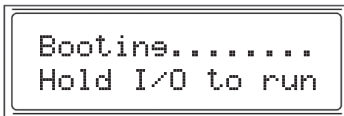
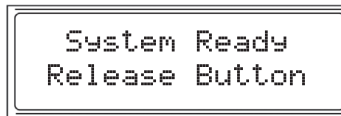
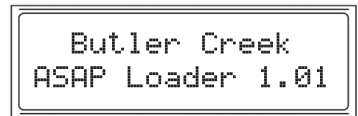
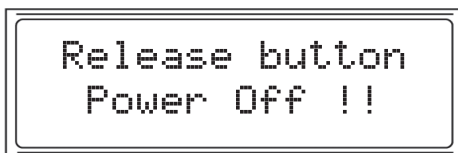

Fig. 1
Fig. 3
Fig. 4
Fig. 17
- To power on the ASAP Loader, press and **hold** the **Power** button ("I/O"). The LCD display will light up and display the booting (startup) (*Fig. 1,2*), system ready (*Fig. 3*), and product name and current firmware version screens (*Fig. 4*).
- If you select “No” from the Continue? (or Continue loading) screen by pressing the **Power** button, you will see the Restart screen (*Fig. 16*). **NOTE: if no ammo was loaded** into the magazine, the home screen (*Fig. 4 or 7*) will be displayed.
- From the home screen (*Fig. 5 or 9*), turn the ASAP Loader off by pressing and holding down the **Power** button until the Power Off message (*Fig. 17*) is displayed. After you release the **Power** button the display will again display the boot screen (*Fig. 1 & 2*). The unit is now in power down mode and will turn off after 25 seconds.